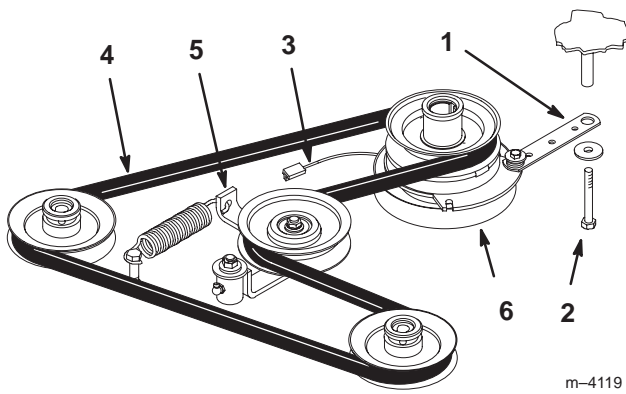

Figure 66
2. Remove bolt from clutch strap and unplug clutch electrical wire (Fig. 66).
3. Pull spring loaded idler to side. Remove traction belt from the engine and hydro pump pulleys (Fig. 66).
4. Install new belt around engine and hydro pump pulleys (Fig. 66).
5. Pull spring loaded idler to side and align belt. Release pressure on spring loaded idler (Fig. 66).